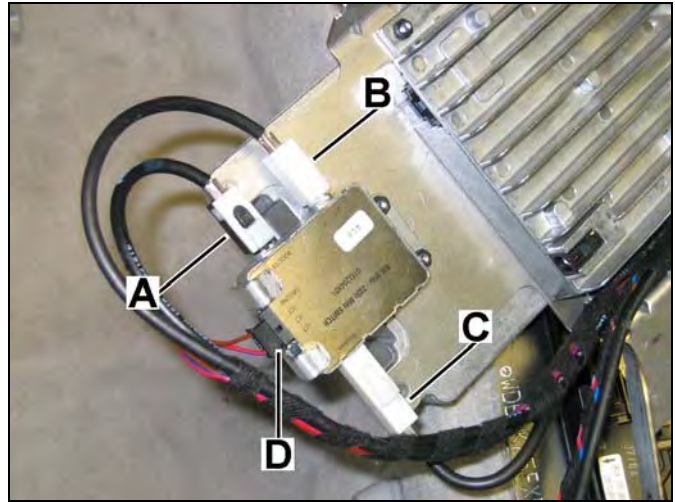

Figure 15
4. Place the bracket assembly within reach of the cable connectors for the attached components (Figure 15).
5. Connect the telephone FAKRA female, black connector to the antenna switch jack labeled "BOOSTER" (A, Figure 15).
6. Connect the Tele Aid FAKRA female, white connector to the antenna switch jack labeled "LCT" (B, Figure 15).
7. Connect the main antenna FAKRA male, white connector to the antenna switch jack labeled "ANTENNA" (C, Figure 15).
8. Connect the 2-pin power supply connector to the antenna switch (D, Figure 15).